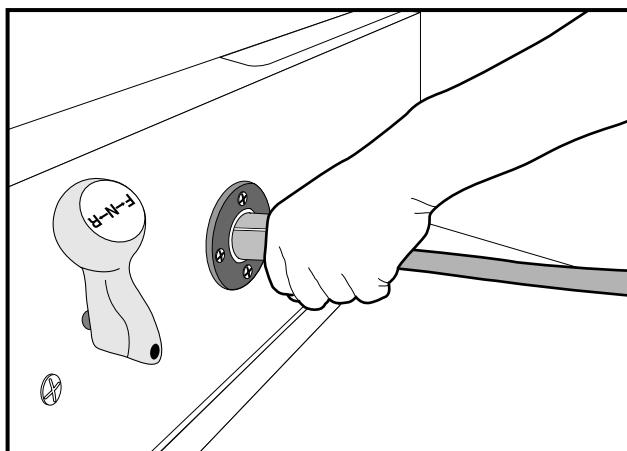

Figure 13 Correct Insertion of Charger DC Plug
- DO NOT ROCK OR BEND THE PLUG. TO CONNECT THE CHARGER PLUG TO THE VEHICLE RECEPTACLE, GRASP THE PLUG HANDLE AND PUSH THE PLUG STRAIGHT INTO THE RECEPTACLE (**FIGURE 13, PAGE 23**).
Insert the charger DC plug into the vehicle receptacle. The charger will turn on two to ten seconds later (**Figure 13, Page 23**).